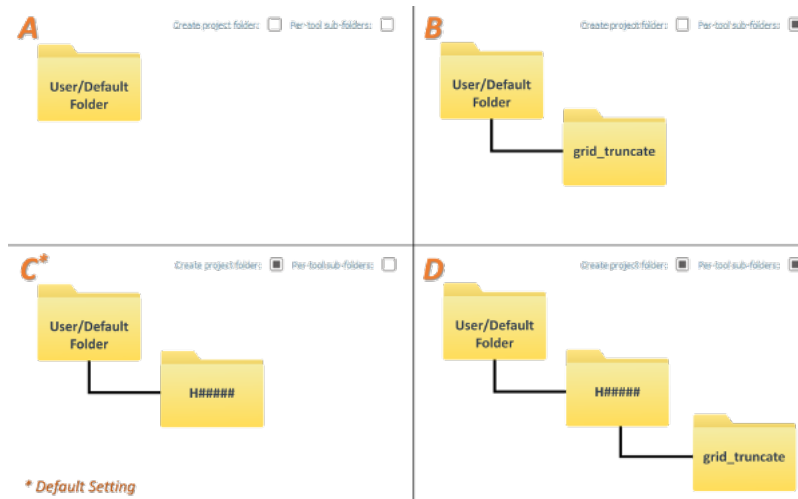

Fig. 2.60: The resulting folder structure based on the four available combinations of output flags.
- No flags set (see Fig. 2.60, pane A). The outputs are stored directly under the default or user-defined location.
- Only the **Per-tool sub-folders** flag set (see Fig. 2.60, pane B). The outputs are stored in a tool-specific sub-folder (in the default or user defined-location).
- Only the **Create project folder** flag set (see Fig. 2.60, pane C). The outputs are stored in a survey folder (in the default or user defined-location). *This is the default setting.*
- Both flags set (see Fig. 2.60, pane D). The outputs are stored in tool-specific sub-folders in a survey folder (in the default or user defined-location).